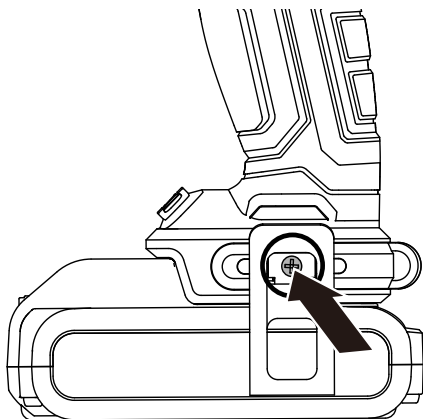

Figure 4
4. INSTALLING BELT CLIP (SEE FIG. 4)